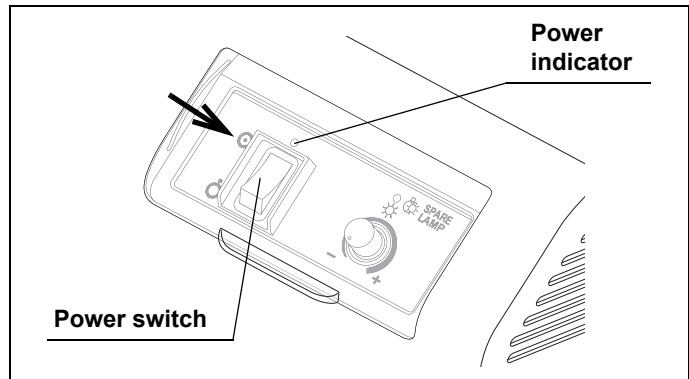

Figure 4.3
- 4 Turn ON the surgical microscope used in combination with this instrument by referring to its instruction manual. This turns this instrument ON and lights up the illumination lamp. Now confirm that the power indicator of this instrument lights green. (See Figure 4.3)